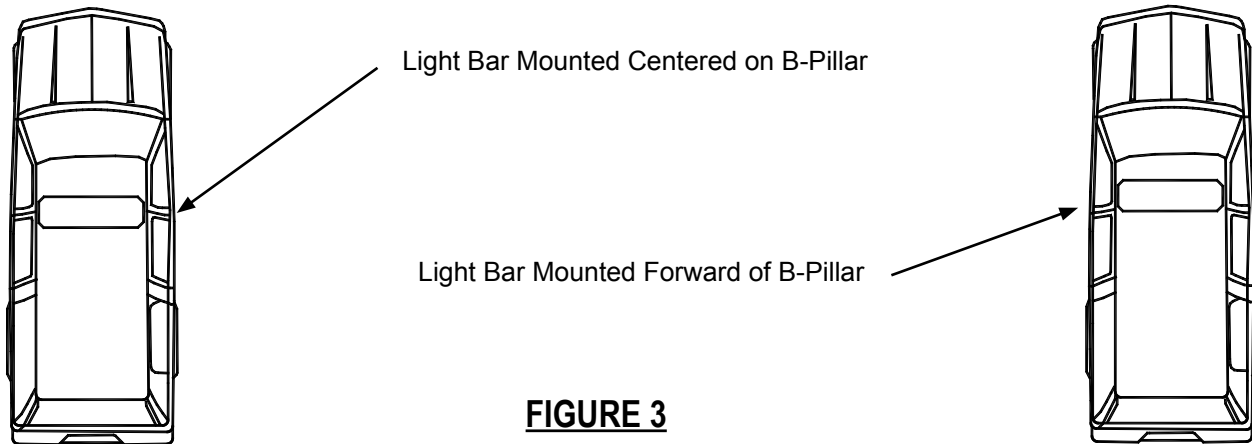

FIGURE 3
4. Position the light bar onto roof of vehicle in the position desired. The lightbar is generally centered over the "B" Pillar of the vehicle except on civilian versions of the Tahoe with a roof rack. See Figure 3.